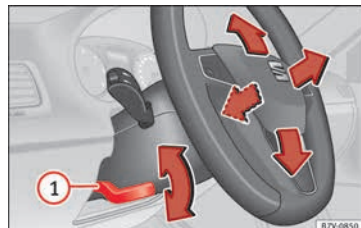

Fig. 25 Mechanical steering wheel adjustment
- Push the lever » **Fig. 25** **1** downwards.